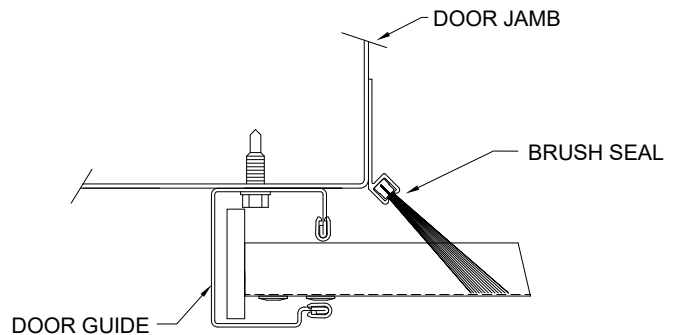

Figure 20.
13.2 Place the door in the closed position before installing the brush seal. Position brush seal so that it just touches the valley portion of the curtain. See Figure 20. Fasten brush seals to jamb every 12 inches with appropriate fasteners.